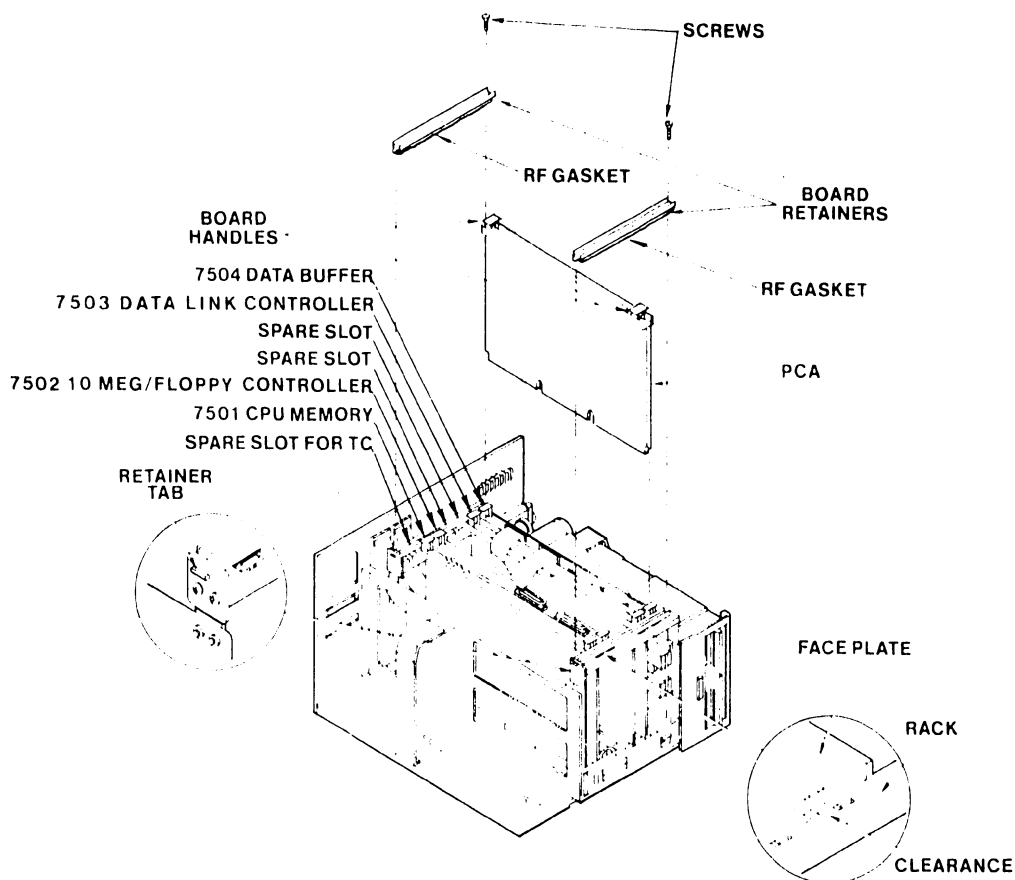

Figure 5-11. Replacing the PCAs
- A. Fit each PCA into the board connectors on the motherboard, respectively as shown in Figure 5-11. (The board connectors on the motherboard are provided with card-guides to ease insertion, and card-keys to center the boards.)